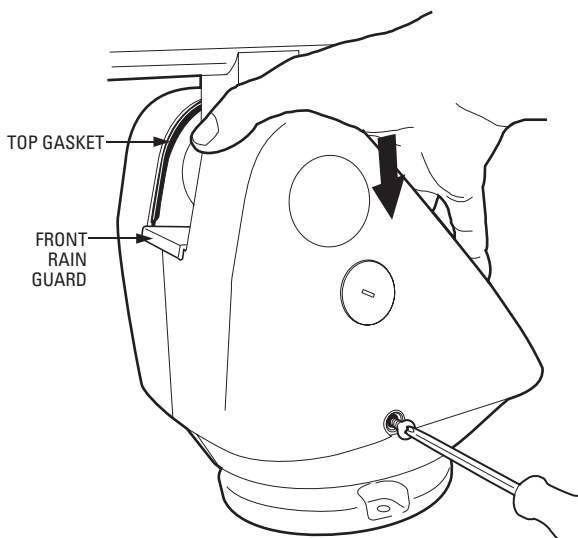

Figure 5. How to Install Cover
- b. Apply pressure and push the top of the cover down to align the screw holes (refer to Figure 5).